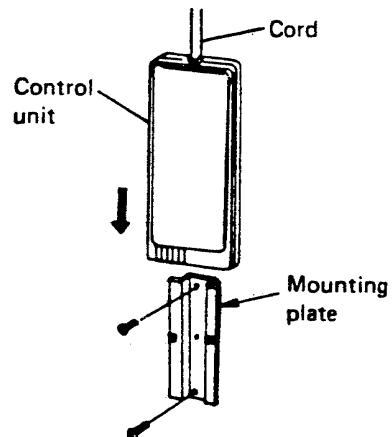

Fig. 19
a) Fix the mounting plate on the wall with 2 screws, align the rail on the rear of the control unit and slide the unit down as far as it will go. Fig. 19